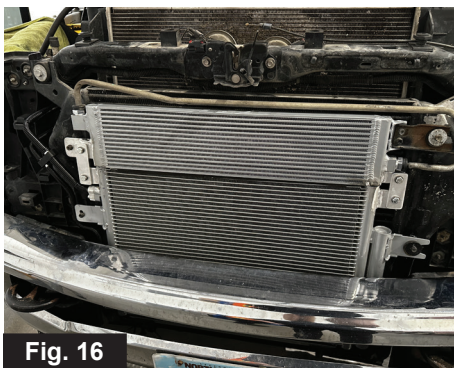

Fig. 16
13. Reconnect the A/C discharge line, all mounting bolts, and transmission lines. (Fig. 16)